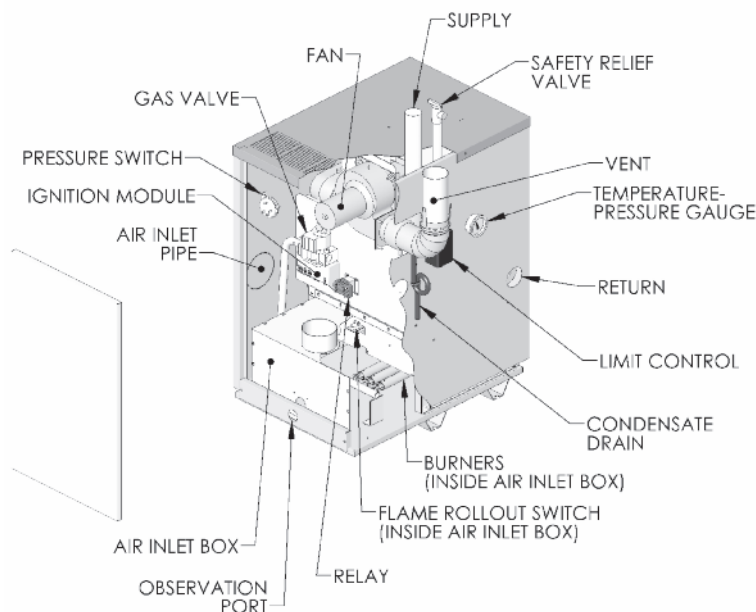

Figure 6.1: Wiring, Controls and Safety Devices
1. See Figure 6.1 for location of wiring and controls. Use Figure 6.2 to connect the boiler to a power supply and to connect components to the boiler.
1. For proper location of controls and accessories refer to Figure 6.1.